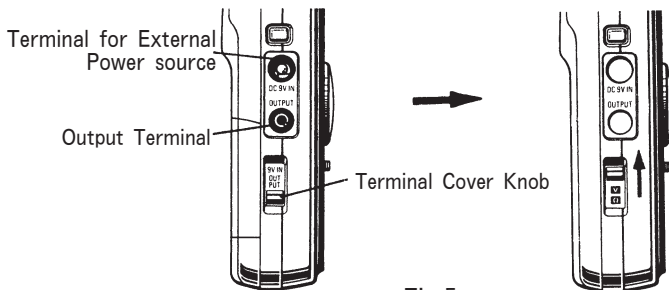

Fig.5
- (1) Set the Range Switch to  $200\Omega$  position.
- (2) Slide up the Terminal Cover Knob to uncover the COMMON Terminal. (See Fig.5)